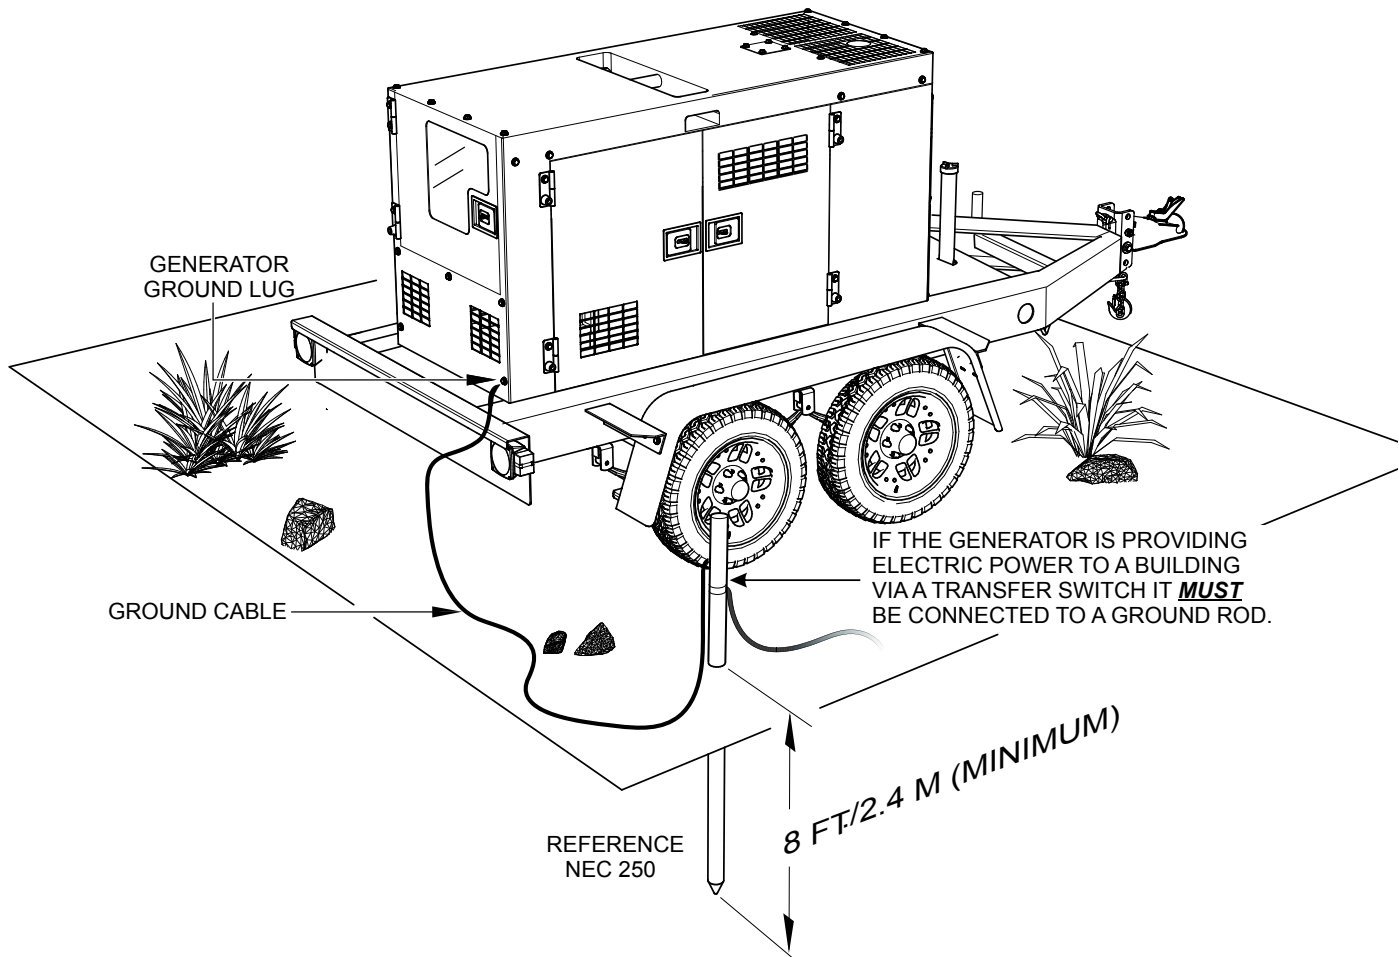

Figure 2. Typical Generator Grounding Application
Connect one end of the ground cable terminal to the generator ground point (Figure 2). Connect the other end of the ground cable to a suitable earth ground (ground rod).
The Occupational Safety and Health Administration (OSHA) and the National Electrical Code (NEC) recommend that if the generator is providing electrical power to a structure (home, office shop, trailer or similar) it **must** be connected to a grounding electrode system, such as driven ground rod (Figure 2).
If applicable, to guard against electrical shock and possible damage to the equipment, it is important to provide a good **EARTH** ground, (Figure 2).
2. When grounding of the generator (Figure 2) is required, connect one end of the ground cable to the ground lug on the generator. Connect the other end of the ground cable to the ground rod (earth ground).